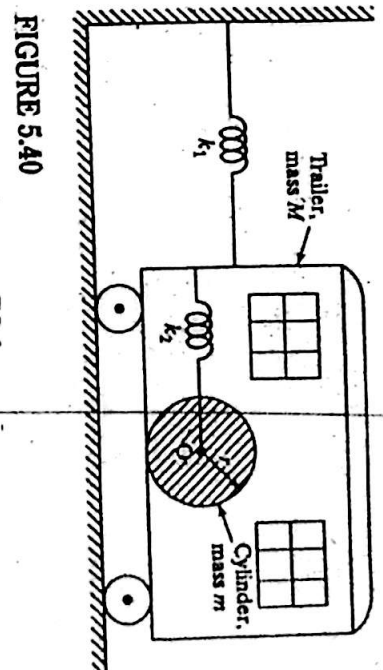

FIGURE 5.40
5.43 A trailer of mass  $M$  is connected to a wall through a spring of stiffness  $k_1$  and can move on a frictionless horizontal surface, as shown in Fig. 5.40. A uniform cylinder of mass  $m$ , connected to the wall of the trailer by a spring of stiffness  $k_2$ , can roll on the floor of the trailer without slipping. Derive the equations of motion of the system and discuss the nature of coupling present in the system.